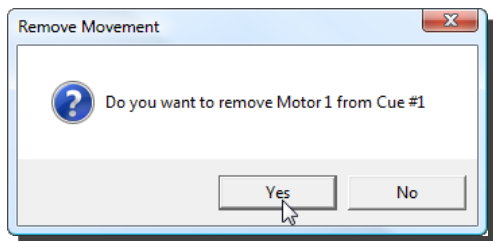

Figure 148
2. Click **Yes** in the **Remove Movement** confirmation dialog box (Figure 148).